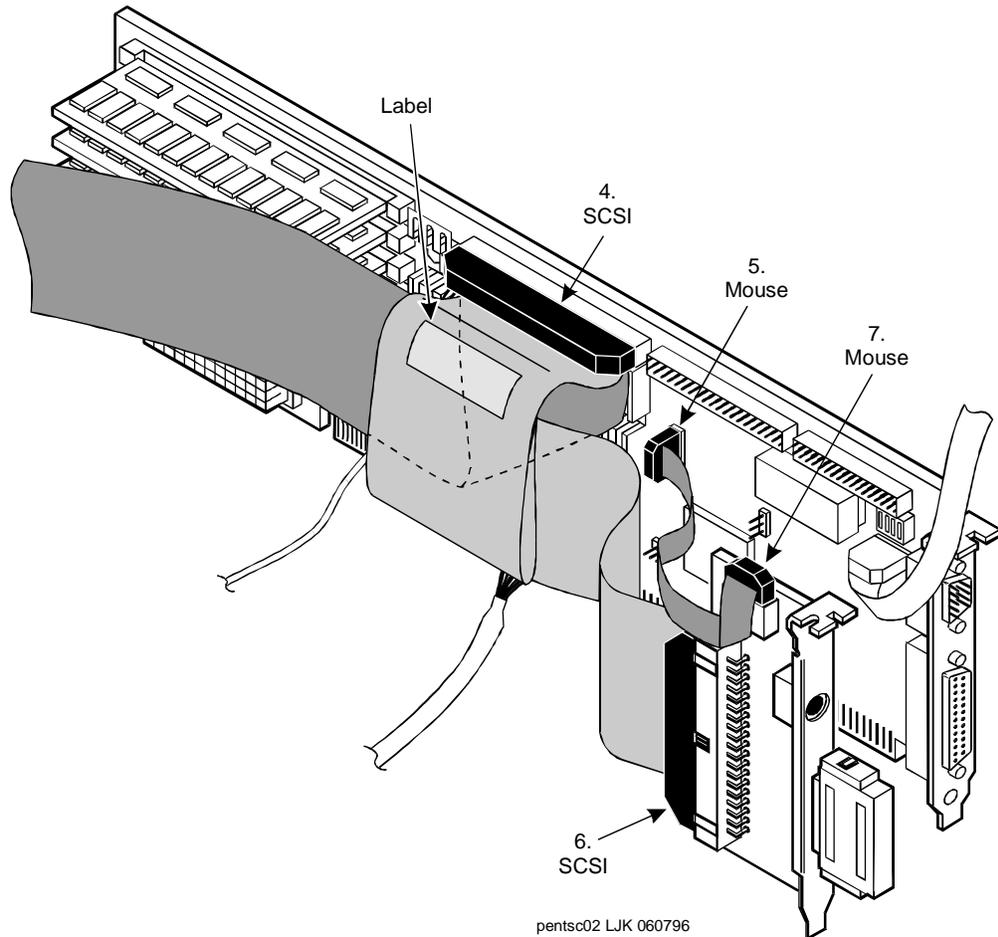

Figure 5-22. Attaching Cables to the P5120/CPU Circuit Card - Part 2
10. Attach the SCSI cable to the SCSI controller pins on the P5120/CPU circuit card (Figure 5-22).
The SCSI cable has a label which contains the following message (Figure 5-22):
The SCSI cable will be routed over top of the disk activity cable (Figure 5-22).
11. Attach the mouse cable to the P5120/CPU circuit card (Figure 5-22).
12. Attach the SCSI cable to the external SCSI connector circuit card (Figure 5-22).